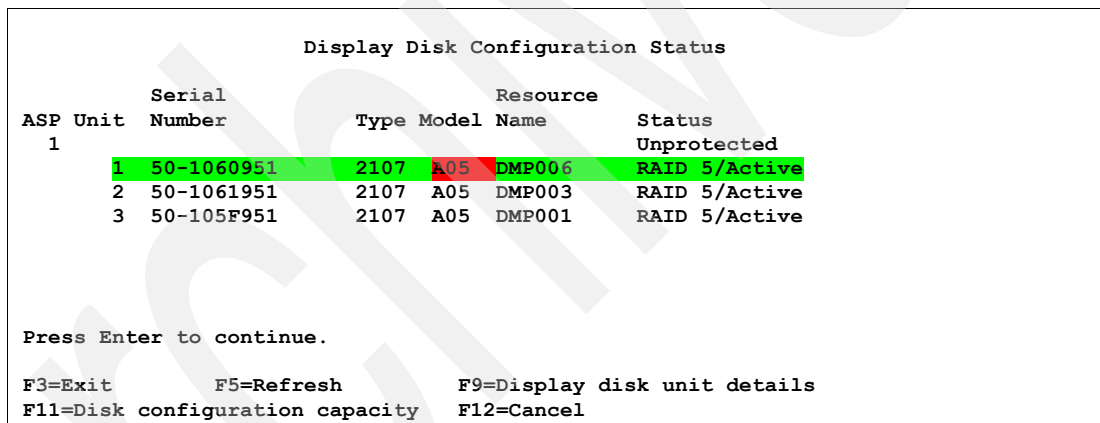

Figure 5-96 Display Disk Configuration Status
16. Next, look at the protected load source unit using the Display Disk Configuration Status menu, as shown in Figure 5-96.